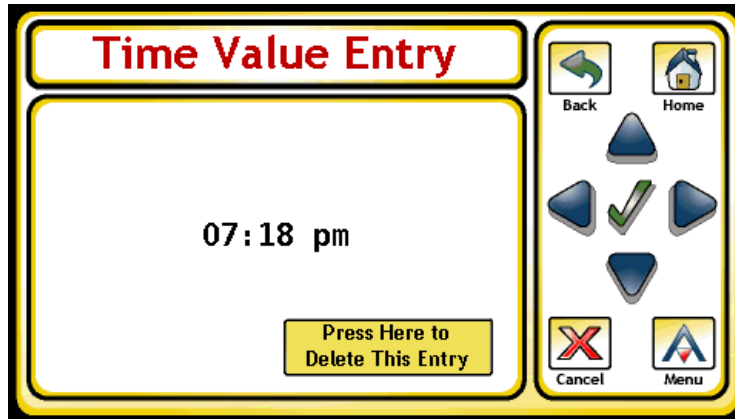

Figure 5-16 Editing a Time, Value Pair
- From the time-value display, users with the appropriate permissions can modify an existing time & value pair by selecting the entry from the list and modifying the data accordingly. Options will exist to allow the user to delete the pair once selected, or simply modify the current information. To delete a time-value pair, simply touch the *Press Here to Delete This Entry* box once you have touched a targeted time-value pair (Figure 5-16).